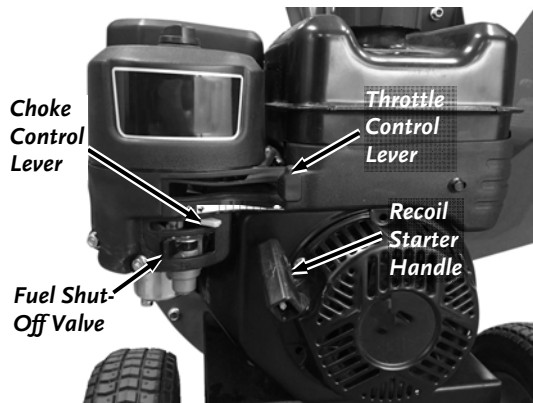

Figure 13
2. Move the Fuel Shut-Off Valve to the right to its OPEN position (**Figure 13**).
Move the Throttle Control Lever all the way to the right past the SLOW (Turtle) position to the “STOP” position (**Figure 13**).